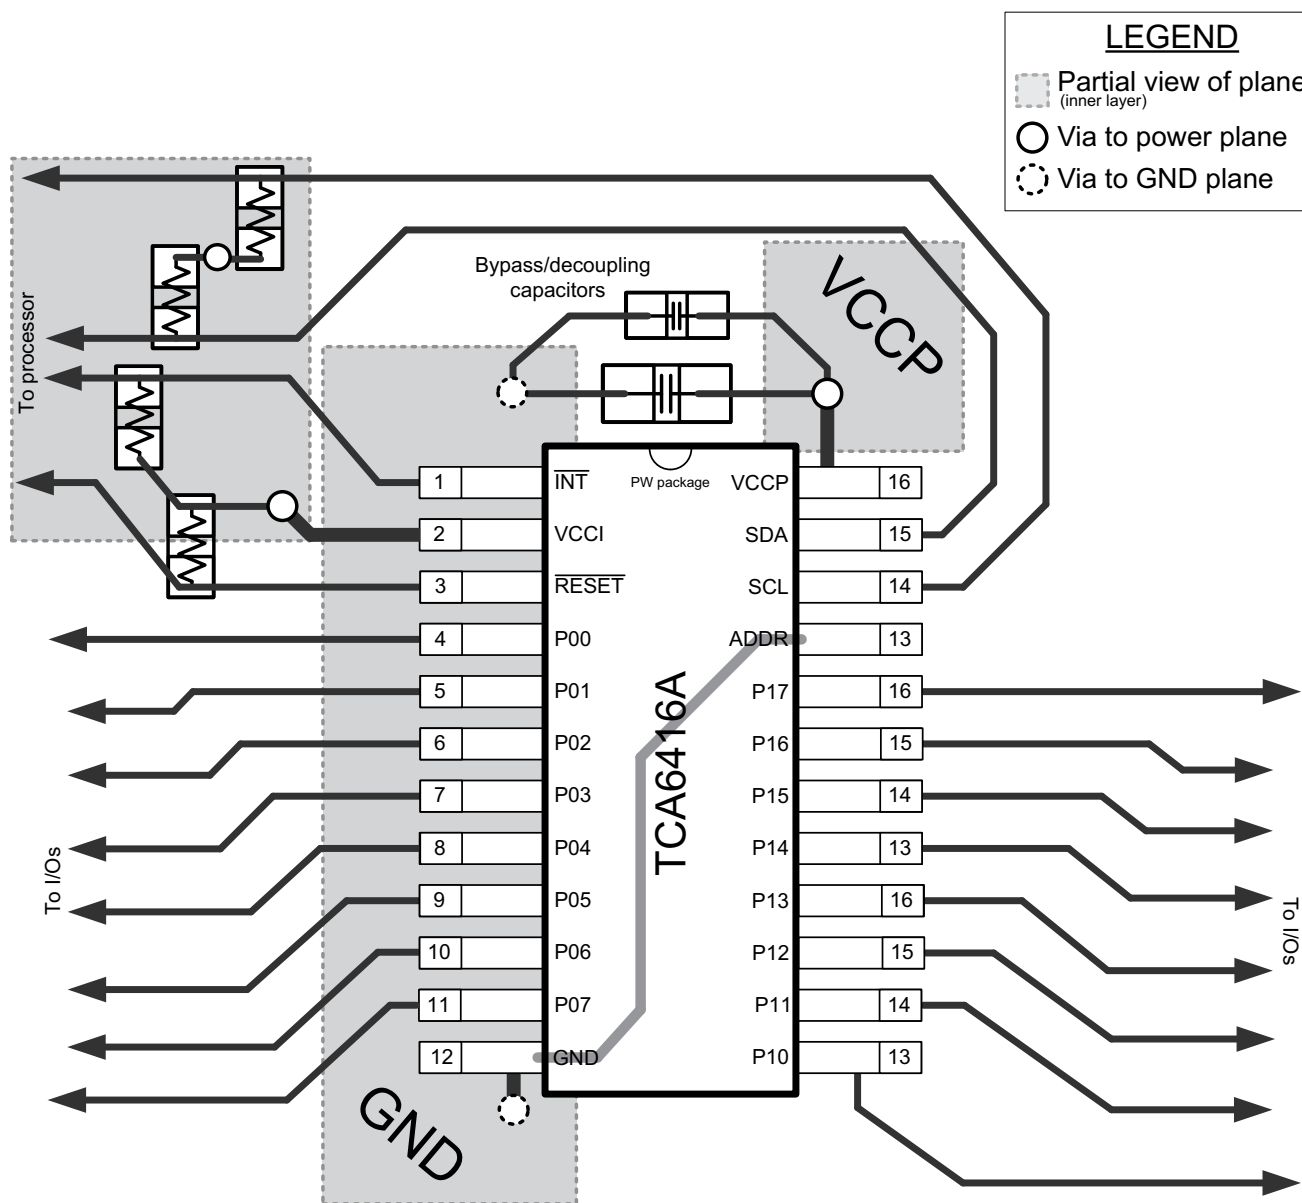

图 11-1. TCA6416A Layout
In all PCB layouts, it is a best practice to avoid right angles in signal traces, to fan out signal traces away from each other upon leaving the vicinity of an integrated circuit (IC), and to use thicker trace widths to carry higher amounts of current that commonly pass through power and ground traces. By-pass and de-coupling capacitors are commonly used to control the voltage on the VCCP pin, using a larger capacitor to provide additional power in the event of a short power supply glitch and a smaller capacitor to filter out high-frequency ripple. These capacitors should be placed as close to the TCA6416A as possible. These best practices are shown in Figure 11-1.
For the layout example provided in Figure 11-1, it would be possible to fabricate a PCB with only 2 layers by using the top layer for signal routing and the bottom layer as a split plane for power (V_{CCI} and V_{CCP}) and ground (GND). However, a 4 layer board is preferable for boards with higher density signal routing. On a 4 layer PCB, it is common to route signals on the top and bottom layer, dedicate one internal layer to a ground plane, and dedicate the other internal layer to a power plane. In a board layout using planes or split planes for power and ground, vias are placed directly next to the surface mount component pad which needs to attach to V_{CCI}, V_{CCP}, or GND and the via is connected electrically to the internal layer or the other side of the board. Vias are also used when a signal trace needs to be routed to the opposite side of the board, but this technique is not demonstrated in Figure 11-1.